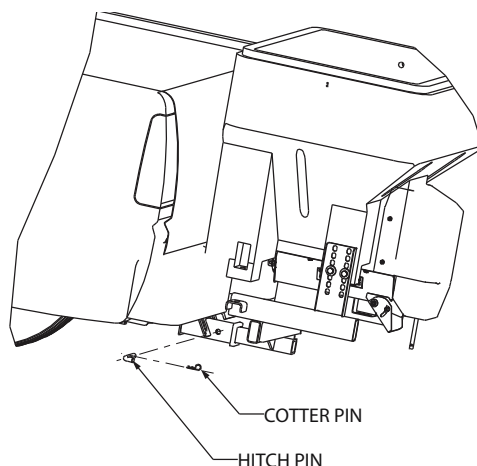

Fig. 4
4. Slide hopper and frame towards tailgate leaving about 3/8" to 1/2" space. Align closest holes in hitch receiver with holes in frame. Secure frame in hitch receiver using 5/8 hitch pin and cotter pin. Fig.4.